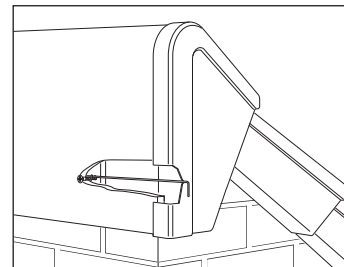

Fig. 11 – Mono-ridge end cap
- 15 Prior to fixing the gable end mono-ridge tile, push the security wire through the outside face of the mono-ridge tile (using the same fixing hole for screwing the mono-ridge tile to the wall) and bend through 90° (Fig. 11).